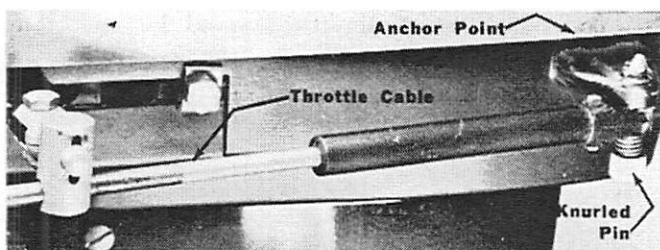

Figure 13. Throttle Cable Adjustment
4. Fasten throttle cable end guide to bottom of anchor point on bottom cowl. (Figure 13)
6. Remove knurled pin from anchor point and place brass barrel on clevis yoke with cable on bottom. (Figure 13)
7. Re-insert knurled pin in anchor point. (Figure 13)